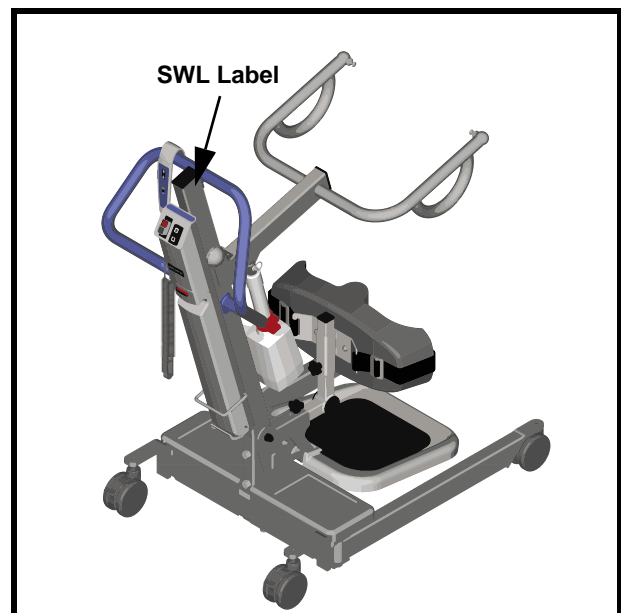

Fig. 35
- 1) Determine the safe working load (SWL) for the floor lift by locating the safe working load label found near the top end of the mast (see Fig. 35).